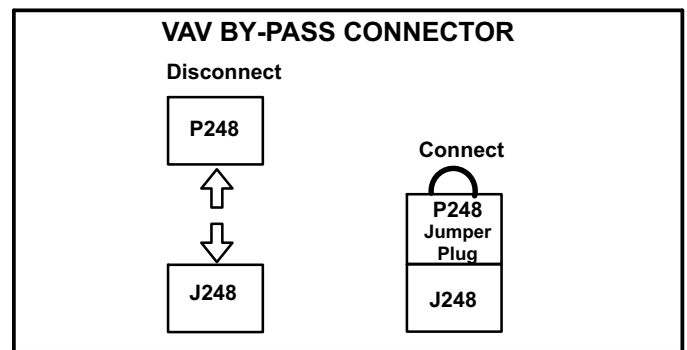

FIGURE 40
- 3- Disconnect J248 from P248 and connect connect P248 jumper plug to J248. P248 jumper plug is attached to the J248 wire harness near the J248 jack connector. See figure 40.